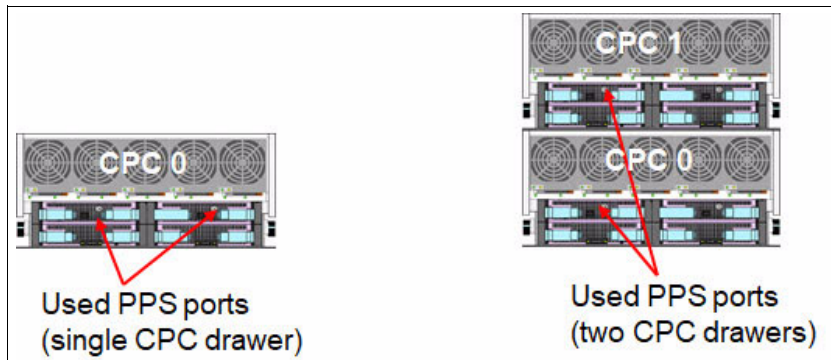

Figure 2-11 Recommended PPS cabling
- ▶ The following PPS plugging rules apply (see Figure 2-11):